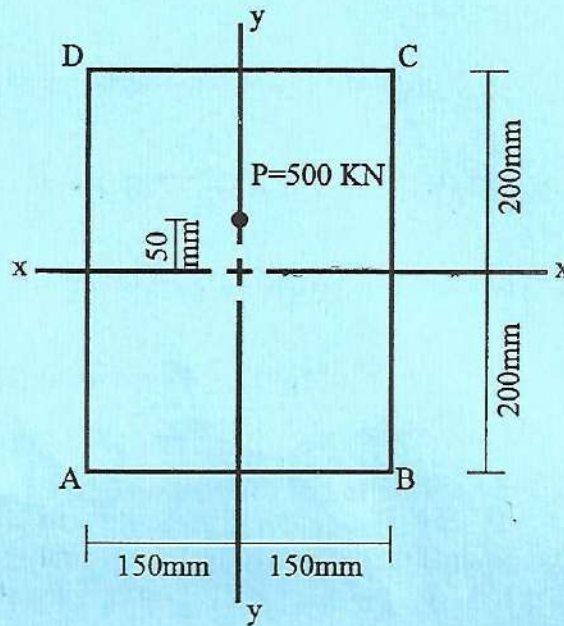

Fig. 3
3. (a) **Figure 3** shows an loaded column eccentrically section. Determine the stress in face AB and CD. (6 marks)